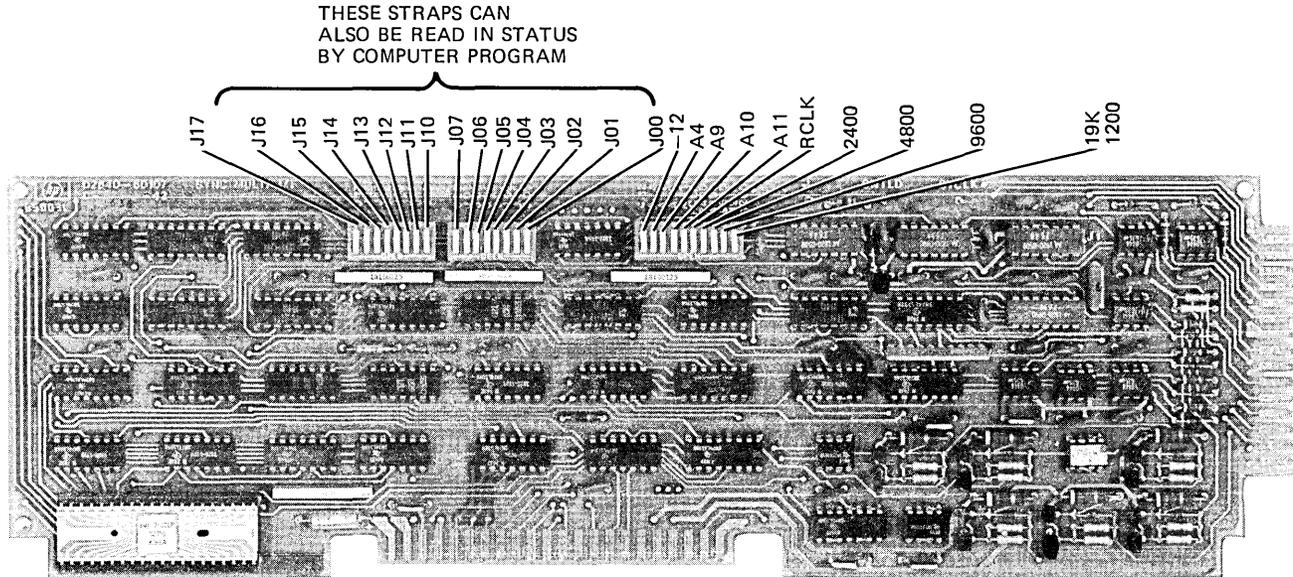

Figure 3-22. Synchronous Multipoint Data Communications PCA Strapping Switch Locations
**ACCESSORY 13260D.** The Keyboard Interface PCA and data communications PCA 02640-60107 (figure 3-22) must be configured for Accessory 13260D.